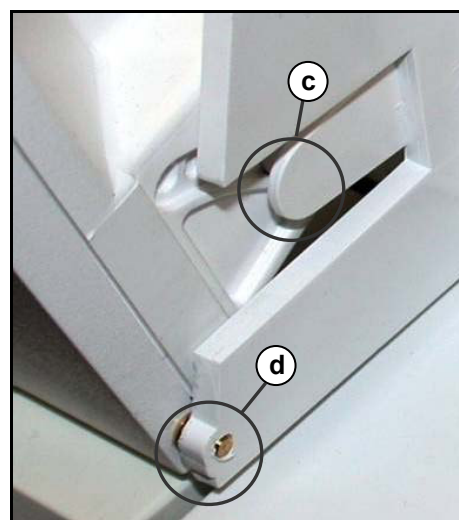

Fig. 2
3. Push the snap tape (Fig. 2, pos. c) a little outwards and fold the b/w display forwards.
4. Push the hinge guide (Fig. 2, pos. d) outwards, remove the display from the plastic bracket and remove the small pins. Guide the display cable forwards through the display cover and remove the b/w display and the cable.